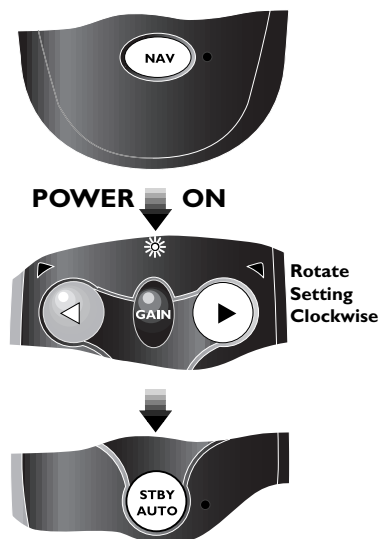

Fig 6.2 - Setting compass orientation
- Use the ◀ or ▶ keys to set the correct compass orientation (▶ to rotate setting clockwise, ◀ anticlockwise - Fig 6.2).